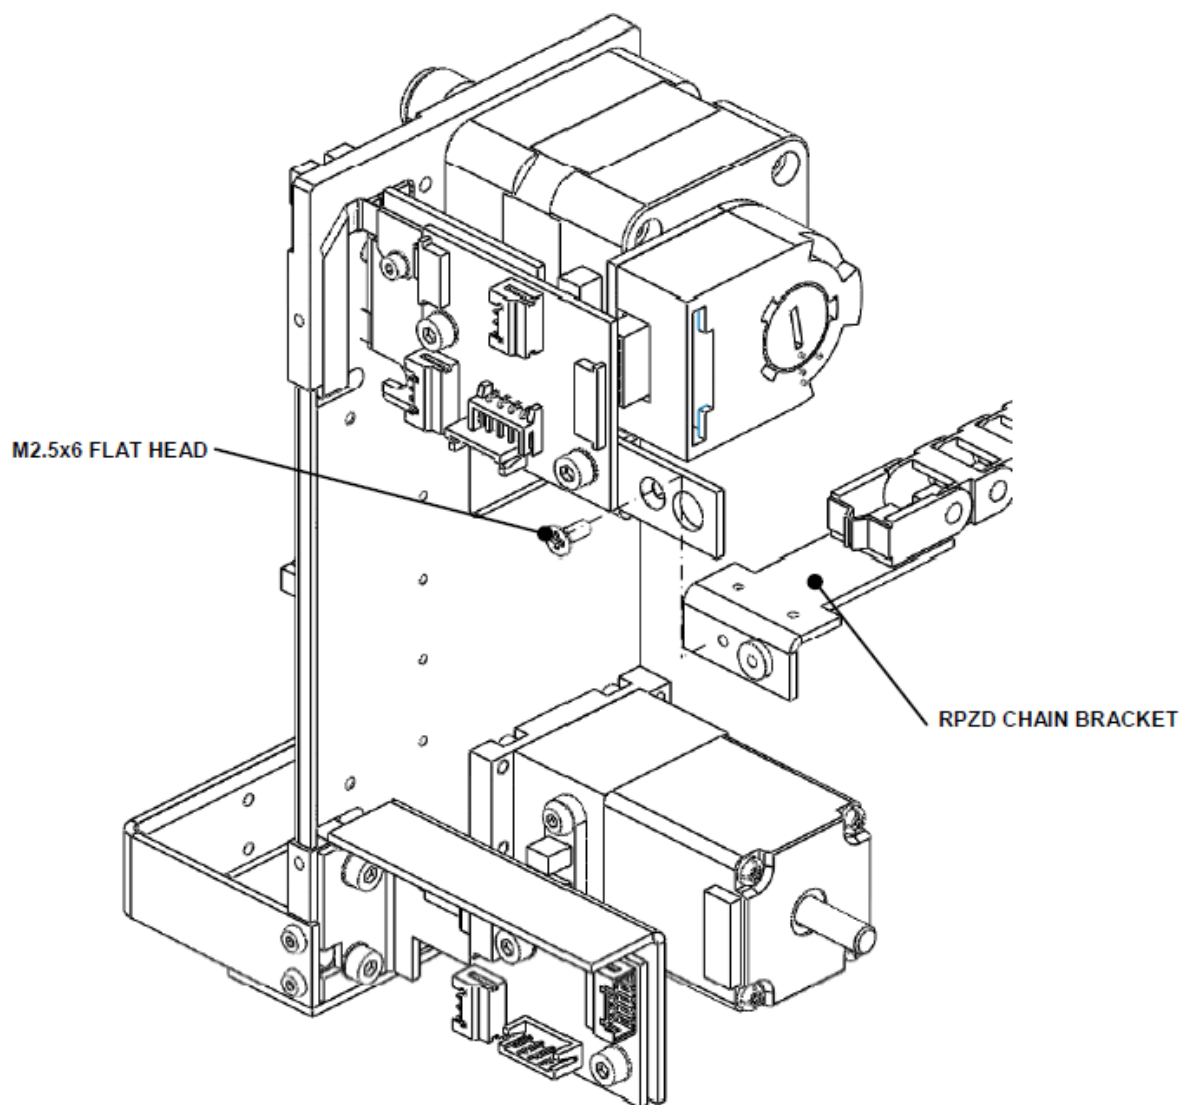

Figure O-4: The Z Chain Bracket
6. Remove the Reagent Pipettor Z Drive Chain Bracket on the Reagent Pipettor Z Drive PCB Bracket by unscrewing the M2.5x6 Flat Head Screw (Figure O-4).